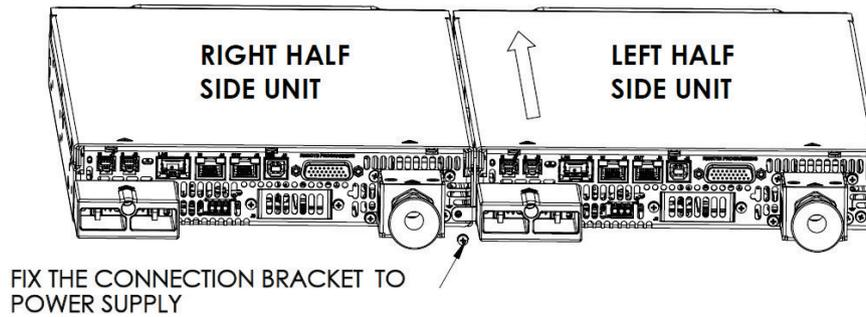

Figure 4-9: Assembly Lock
6. Tighten the ground screw previously unscrewed (sems screw M3X8), back to the rear panel through the hole in the connection bracket as shown In Figure 4-9.